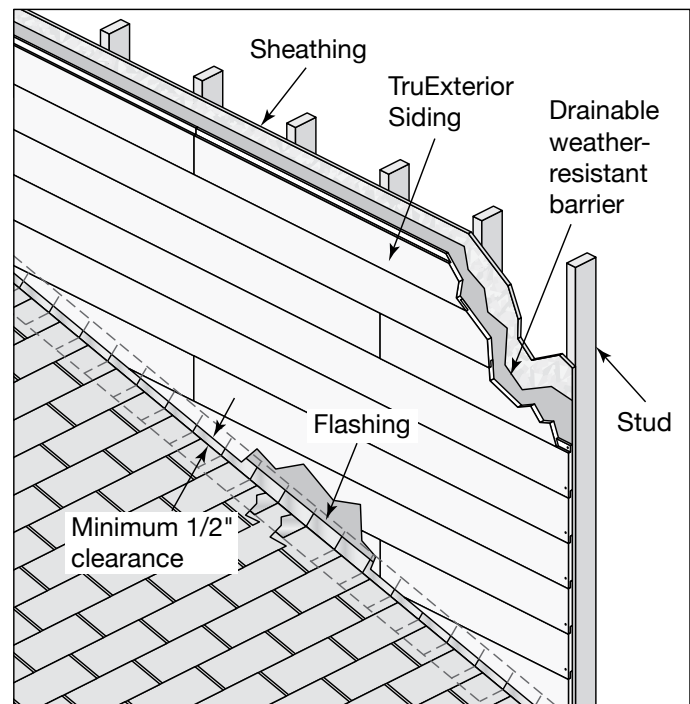

Fig. 3
- Always install a drainable weather-resistant barrier according to local building code requirements (**Fig. 3**).
- Prepare your step flashing along roof and wall lines using your weather barrier, flashing tape or z-flashing as counter flashing (**Fig. 3**).
- Allow a minimum 1/2" clearance between the siding and the roof line to help prevent debris from building up (**Fig. 3**).